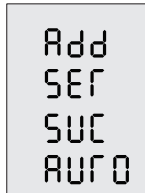

Figure 5-8
**Step5:** After pairing, the LCD panel will display as Figure 5-8 for 5s, then returning to home page automatically.